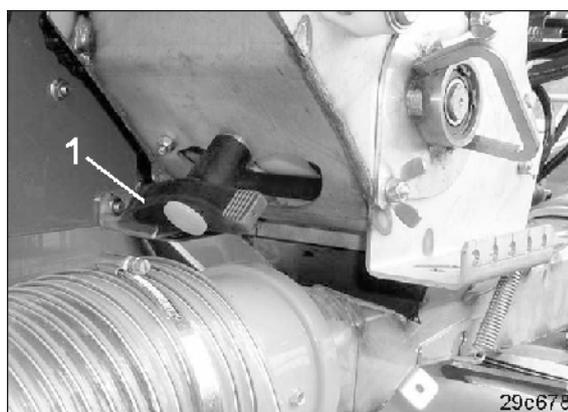

Fig. 122
- Open the residue emptying flap by turning the handle (Fig. 122/1).
- Close the residue emptying flap (Fig. 122/1) and fasten the calibration trough on the transport mounting.